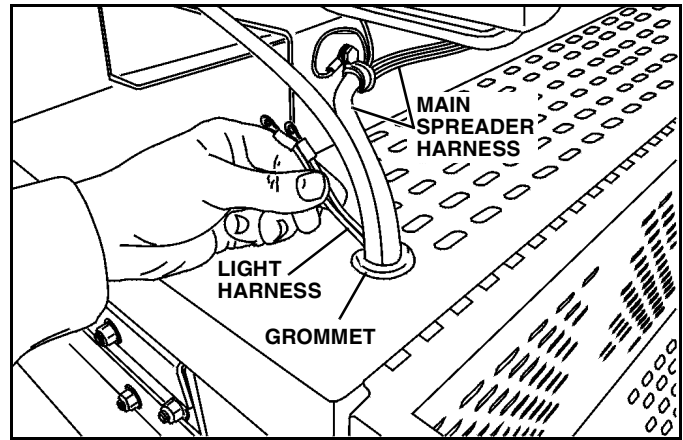

Figure 1-6 , Gas Model Shown.
2. Route the Light Harness under the left corner of the vented motor platform, then into the motor area through an existing grommet along with the main spreader harness and other wiring, depending on model. (See Figure 1-6).